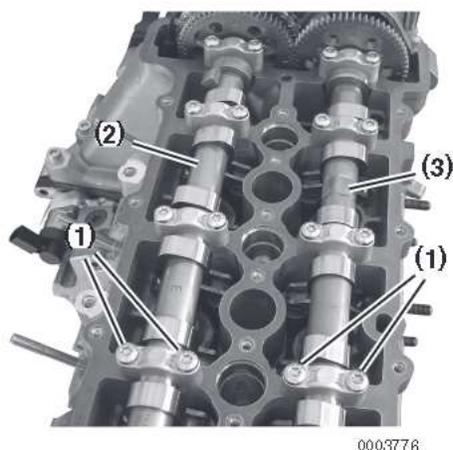

Figure 5-99
19. Evenly loosen all camshaft bearing cap bolts (**Figure 5-99, (1)**) in 1/2-turn increments, working from each end towards the center.
21. Remove the intake (**Figure 5-99, (2)**) and exhaust (**Figure 5-99, (3)**) camshafts.